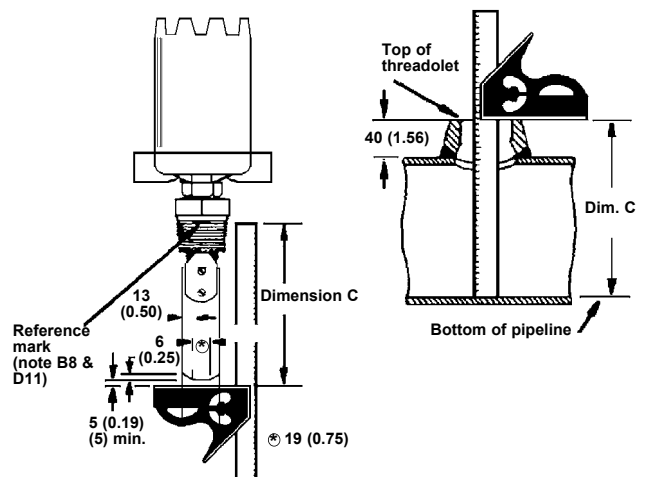

Figure 5
**2.50" line** – Use small vane with large vane trimmed to 38 mm (1.50") wide (same as small vane) and length trimmed to dimension C less 5 mm (0.19"), as shown in Figure 5.
**3.00" line and larger** – Use small vane with large vane length trimmed to dimension C less 5 mm (0.19"), as shown in Figure 5. Upon final assembly of trimmed vanes, firmly tighten 2 screws (item 27, page 7). It is recommended that the lower retaining screw be peened over on the threaded end.